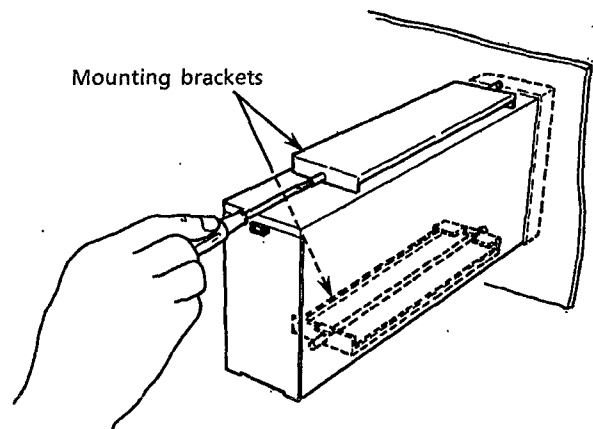

Figure 2.2 Attaching the Mounting Bracket
- ③ Attach the mounting brackets to the unit, and fix the unit to the back of the front panel with screws (see Figure 2.2) through top and bottom mounting brackets.